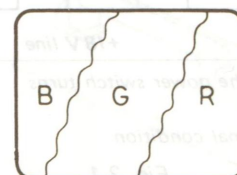

Fig. 4-2.
6. Unsolder the red and blue leads on the T board. The screen should appear as shown in Fig. 4-2.